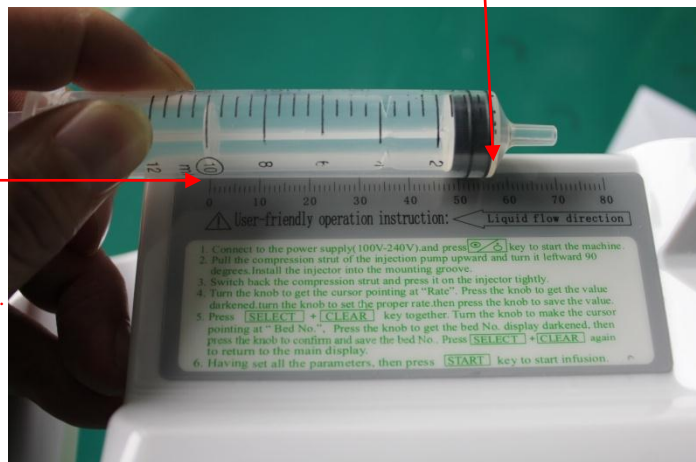

Figure 20
- 2) Measure the length of the syringe pipe by the scale in the fast operation manual as shown in Figure 20 (the unit is mm), and write down the length value. The accuracy of the length makes the injection accurate.